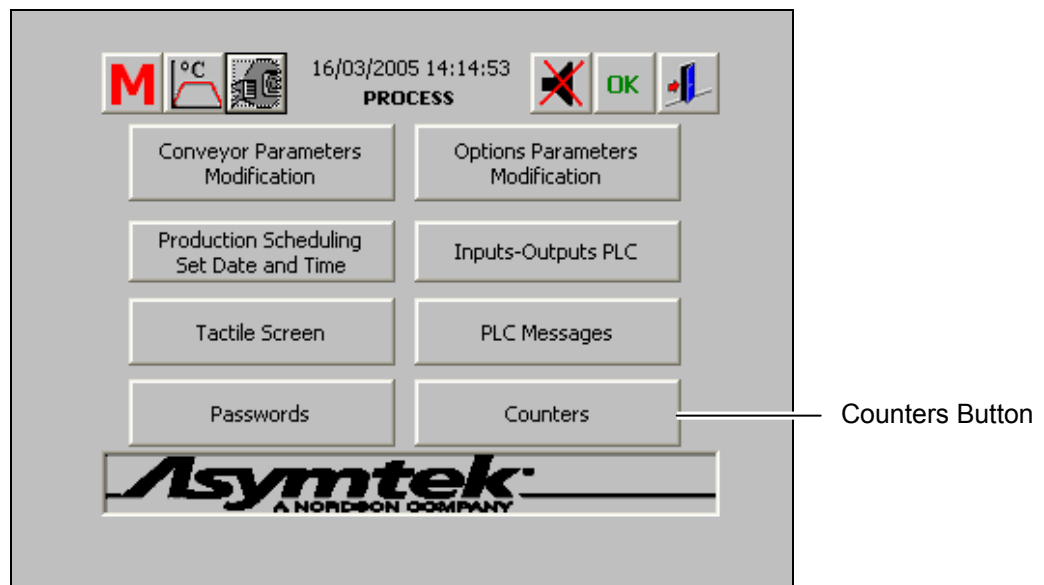

Figure 6-44 Control Menu – Counters Button
1. To access the Oven Production Counters, on the Control Menu click on the **Counters** button (Figure 6-44).